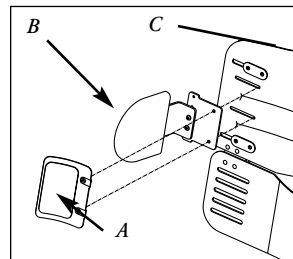

Figure 16
**LATERAL BRACKET INSTALLATION Figure 16**